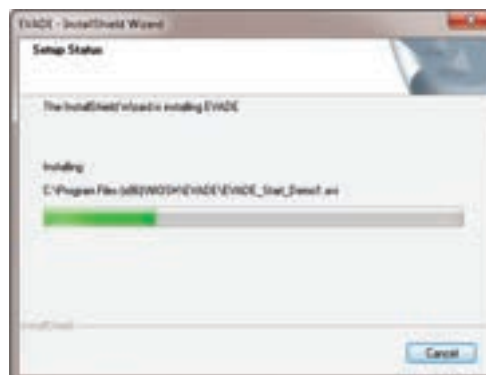

Figure 12. Installation progress window.
9. Click **Install** to proceed with the installation. As the installation proceeds, a window is displayed which contains a bar showing the progress of the installation (Figure 12).